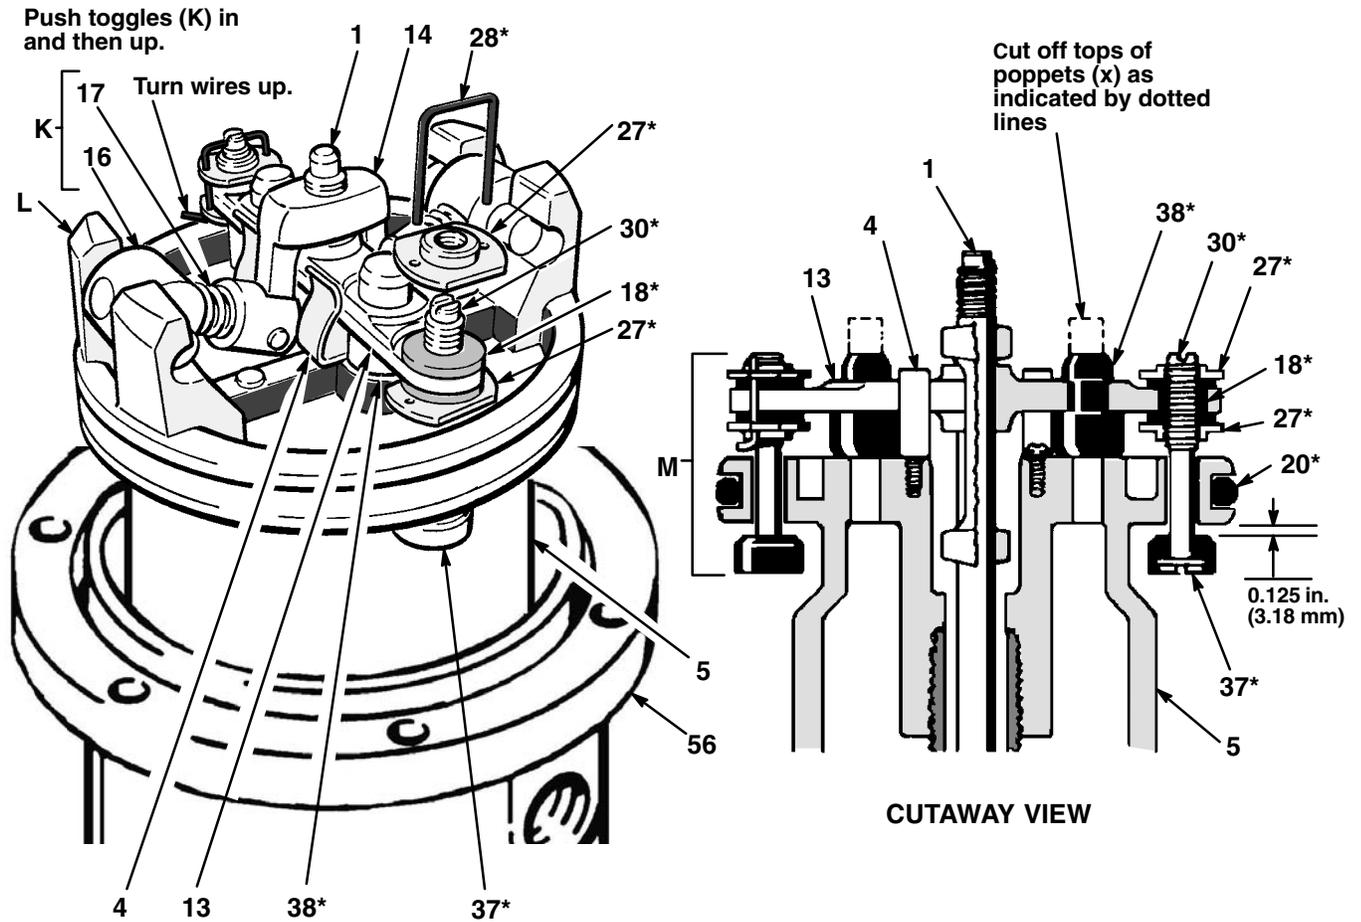

Fig. 5
**Always** keep fingers clear of the toggle assemblies (K), to avoid pinching or amputating them. See Fig. 5.
5. Use a screwdriver to push down on the trip rod yoke (14) and snap the toggle assemblies (K) down. See Fig. 5. Remove the lockwires (28\*) from the adjusting nuts (27\*) of the transfer valves (M). Screw the top adjusting nuts (27\*) off. Screw the valve stems (30\*) out of the grommets (18\*) and lower adjusting nuts (27\*). Take the valve poppets (37\*) off the stems and squeeze them firmly to check for cracks.
- Grip the toggle rockers (16) with a pliers. Compress the springs (17) and swing the toggle assembly (K) up and away from the piston lugs (L), and remove the parts. Check that the valve actuator (13) is supported by the spring clips (4), but slides easily into them. See Fig. 5.
- Remove the trip rod yoke (14), valve actuator (13) and trip rod (1). Check the exhaust valve poppets (38\*) for cracks.
- Pull the piston (5) up out of the base (56) and inspect the piston o-ring (20\*) and the o-ring in the base casting.
4. Be sure the o-rings are in place. Slide the piston rod down through the throat bearing and lower the piston (5) into the air motor base (56).
5. Pull the exhaust valve poppets (38\*) into the valve actuator (13) and clip off the top part shown with dotted lines. See Fig. 5.
6. Install the transfer valve poppets (37\*) onto the valve stems (30\*), then reassemble the valve stems (30\*), bottom adjusting nuts (27\*), grommets (18\*), and top adjusting nuts (27\*) on the piston (5). Assemble the trip rod (1), valve actuator (13), trip rod yoke (14) and toggle assemblies (K) on the piston. See Fig. 5.
7. Before installing the lockwires (28\*) in the adjusting nuts (27\*), use the special gauge 171818 to adjust the transfer valve (M) so there is 0.125 in. (3.68 mm) clearance between the poppets (37\*) and the piston (5) when the toggle assemblies are in the *down* position. See Fig. 5.
8. Snap the toggle assemblies (K) to the *up* position. Reinstall the cylinder (32) and cap nut (31). Reassemble the air motor to the displacement pump.